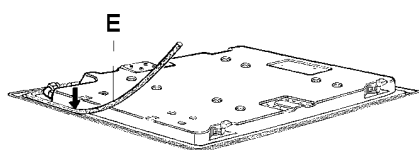

FIG. 9
- Overturn the cooktop and correctly position seal "E" (fig. 9) on top of the upturned edge of the cooktop flat with the outer side of the strip in line with the external perimeter of the top, pay attention not to sink the seal between the space bottom/top rim.